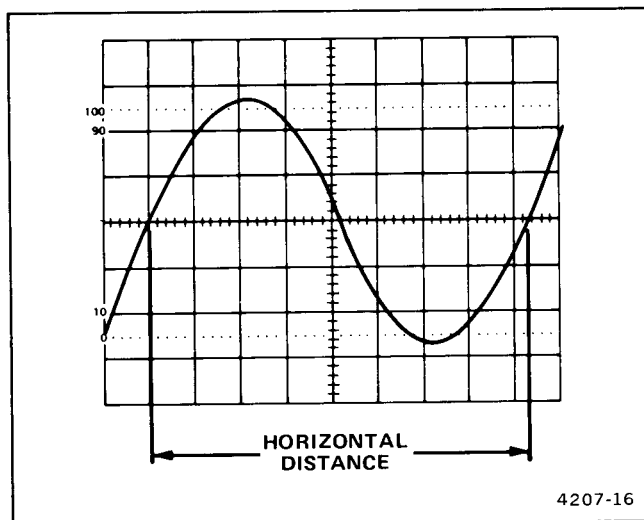

Figure 4-6. Time duration.
5. Position the display to place the time-measurement points on the center horizontal graticule line (see Figure 4-6).
EXAMPLE: The distance between the time-measurement points is 8.3 divisions (see Figure 4-6), and the A SEC/DIV switch is set to 2 ms. The X10 Magnifier switch is pushed in (1X magnification).
EXAMPLE: The signal in Figure 4-6 has a time duration of 16.6 ms.